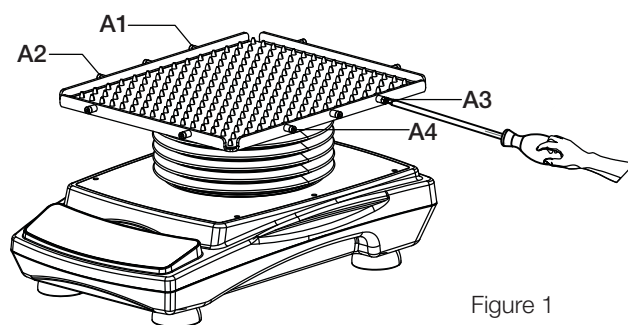

Figure 1
1. Remove the screw for rubber strip at positions A1 to A4 as shown in the figure 1.